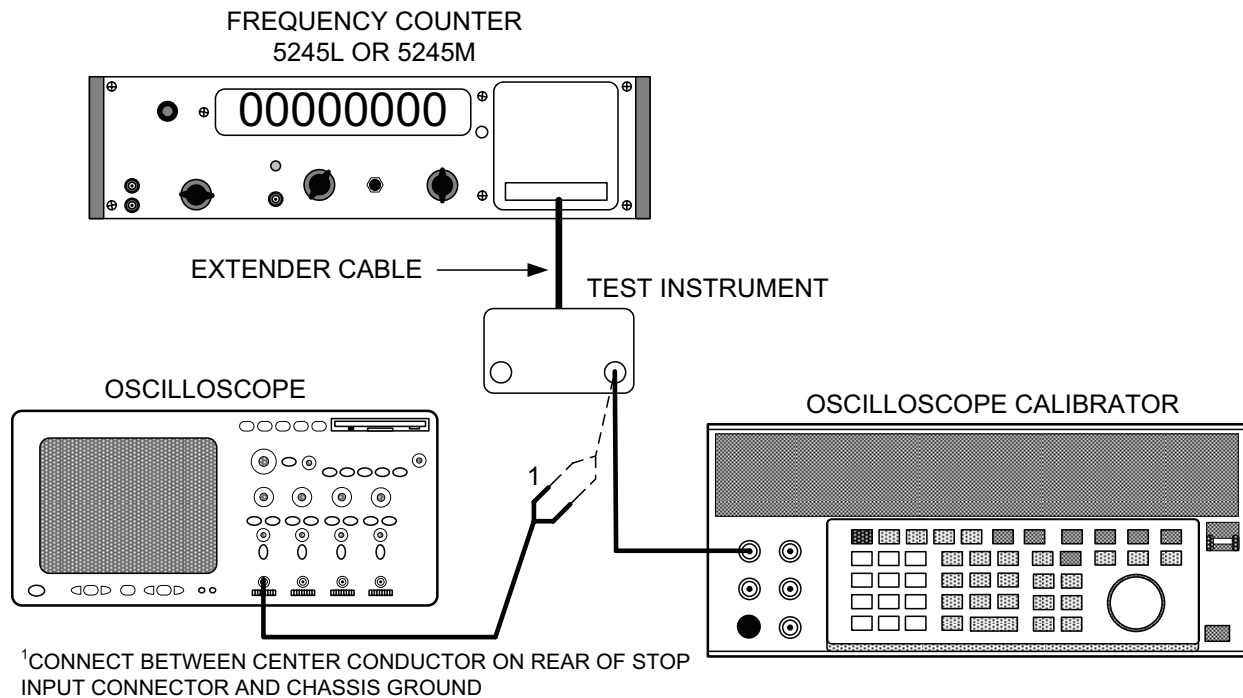

Figure 6. Attenuator compensation - equipment setup.
(1) Connect equipment as shown in figure 6.